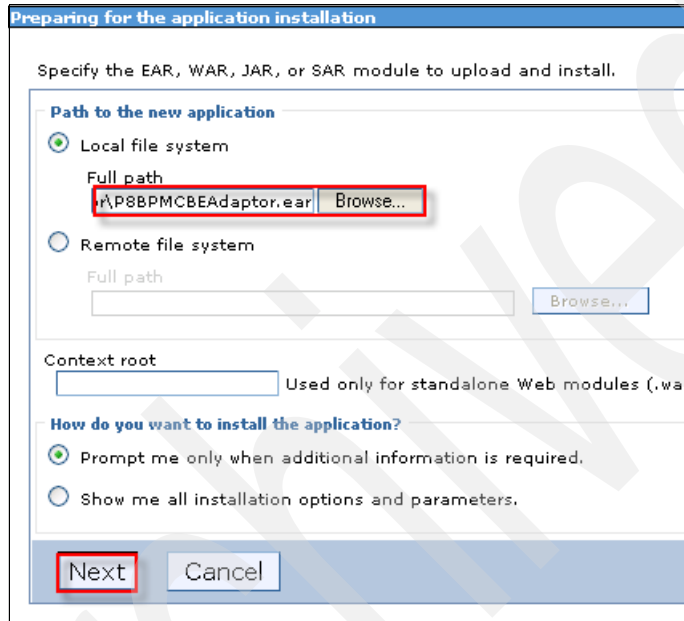

Figure 7-23 Preparing for the application installation
3. In the Preparing for the application installation panel (Figure 7-23), for Local file system, click **Browse**. Select the **P8_BPM_CBEAdaptor.ear** file. Click **Next**.